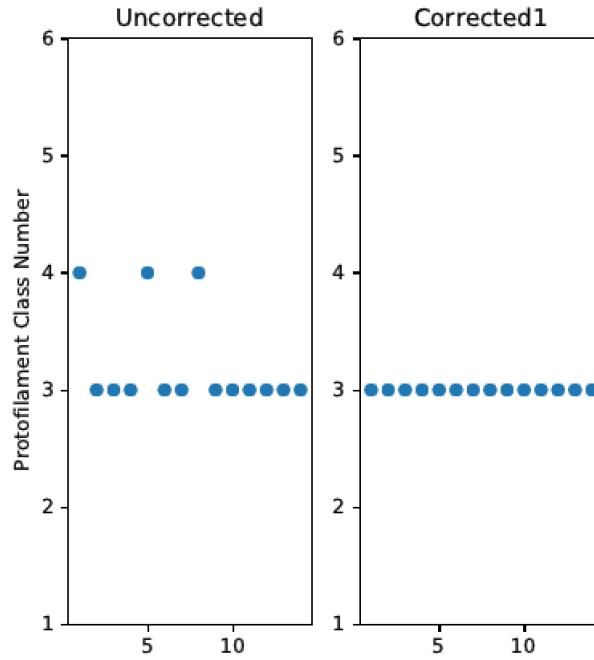

Figure 1: Protofilament class distribution for an example microtubule.
- Take a look at the file `protofilament_corrected.pdf`, which will be in the folder: `External/job_id/protofilament_corrected.pdf`. This file has a page for each microtubule in your dataset, where the graph on the left shows the protofilament class number (1-6 corresponding to 11-16 protofilament microtubules) over microtubule particle number, plotted for the RELION protofilament classification job we previously carried out. This plot should show various protofilament class assignments for microtubule particles, however it should be obvious that there is a predominant class number (see figure 1 for an example). The plot on the right shows the MiRP corrected class assignments for that microtubule. Take a look through the different microtubules. Is there a predominant class type for each microtubule, or are the class assignments quite varied? The latter indicates that protofilament classification has not worked well. Where class assignments are too varied, and MiRP cannot decide what the helical architecture is, that microtubule will be discarded, and you will not see a graph on the right.